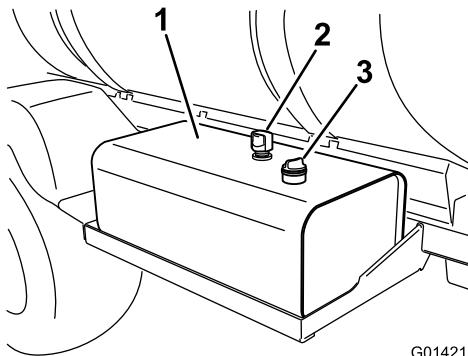

Figure 141
2. Clean the area around the hydraulic-fluid-tank dipstick cap and remove it (Figure 141).